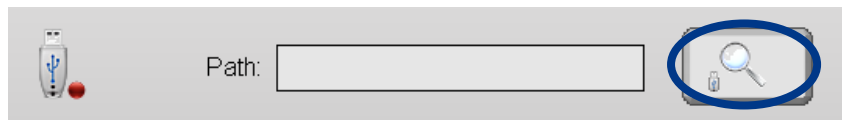

Figure 94: USB search button.
1. A USB stick must be inserted into the device's USB port (Figure 62). Once the USB stick is connected, press the USB search button (Figure 94).
In order to perform a transaction, data records must be deleted on the USB stick and the USB search button must be pressed (Figure 94).